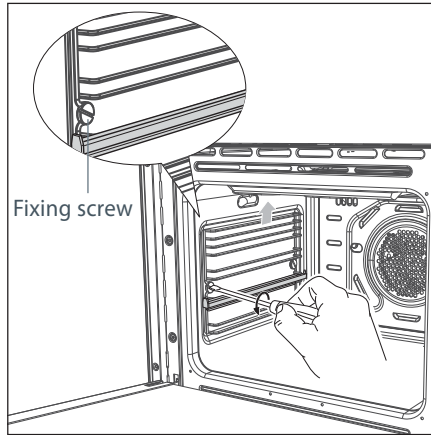

Fig.39 Removing the side racks (and catalytic panels if installed)
- The catalytic panels are covered with a special microporous enamel which absorbs and does away with oil and fat splashes during normal cooking over 200 °C. If, after cooking very fatty foods, the panels remain dirty, heat the oven on maximum for an hour to an hour and a half, and they will self-clean. The side panels are reversible. Make sure that you replace them with the arrow up, and on the correct side. To remove the side catalytic panels, you first need to unscrew the side racks. See Fig. 39.
- 1 Remove the side racks by unscrewing the fixing screws (Fig. 39).